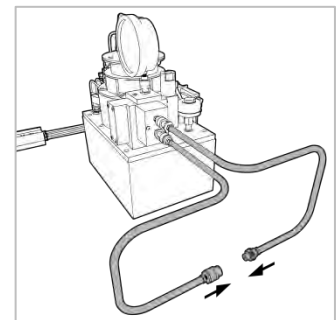

FIGURE 3 – Connecting Hoses to Each Other
3. Connect the free ends of both hoses to each other using the quick connects. This should create a loop in the hydraulic system, see FIGURE 3.